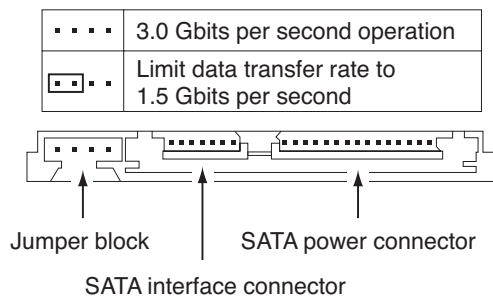

Figure 3. Serial ATA connectors and jumper options
- Configure the jumper block with a jumper as shown in Figure 3 below to limit the data transfer rate to 1.5 Gbits per second (and leave the drive connected to the SATA-equipped motherboard or host adapter that doesn’t support autonegotiation) or
- Install a SATA host adapter that supports autonegotiation, set the drive jumper block to “3 Gbits per second operation” (see Figure 3 below), and connect the drive to that adapter. This option has the benefit of not limiting the drive to a 1.5 Gbits/sec transfer rate.